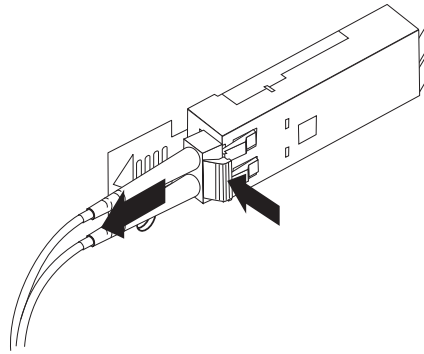

Figure 31. Removing the LC-LC fibre-channel cable
2. Carefully pull on the connector to remove the cable from the SFP module, as shown in Figure 31 on page 47.